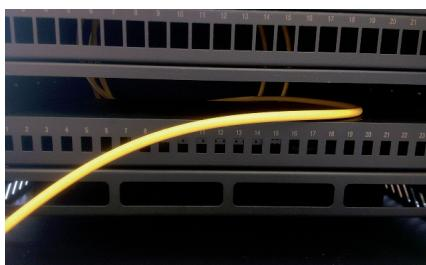

Imagen 2 / figure 2
*Strip a sufficient length of cable ( $\pm 80$  cm) and attach the end of the cable to the body of the removable tray (figures 2 and 3).*